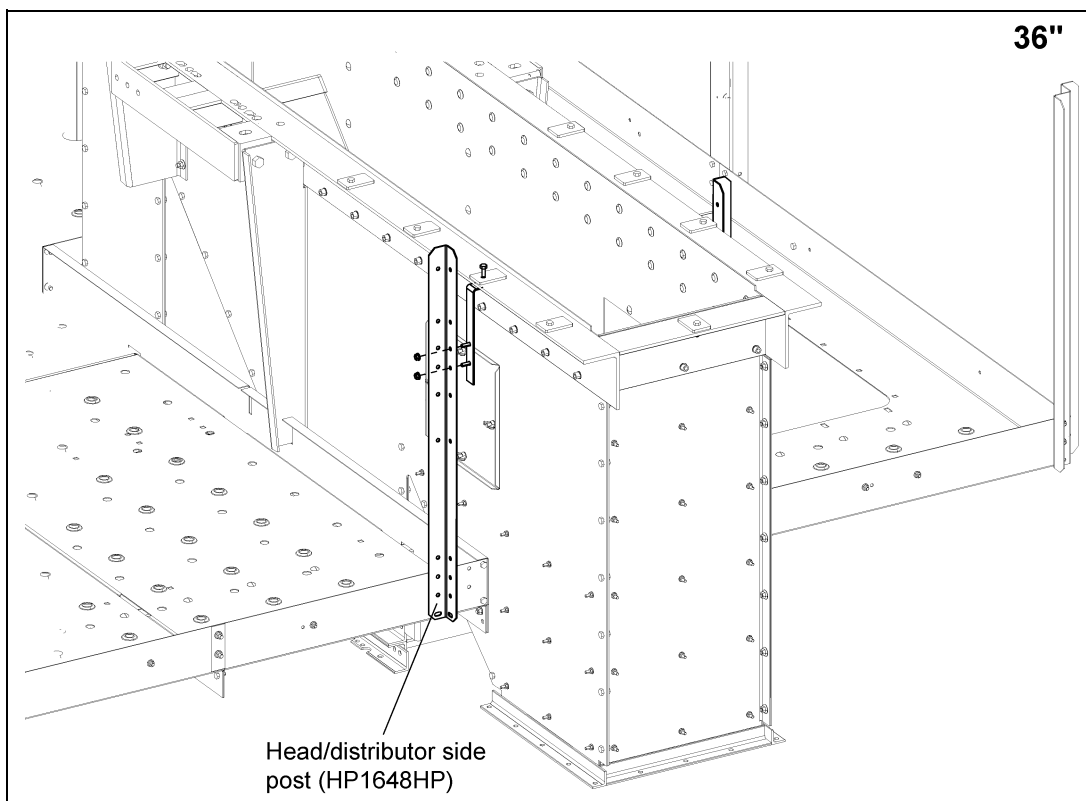

Figure 10H
2. Attach head side post (HP1648HP) to lower head using 5/16" x 3/4" bolts and nuts. (See Figure 10H.)